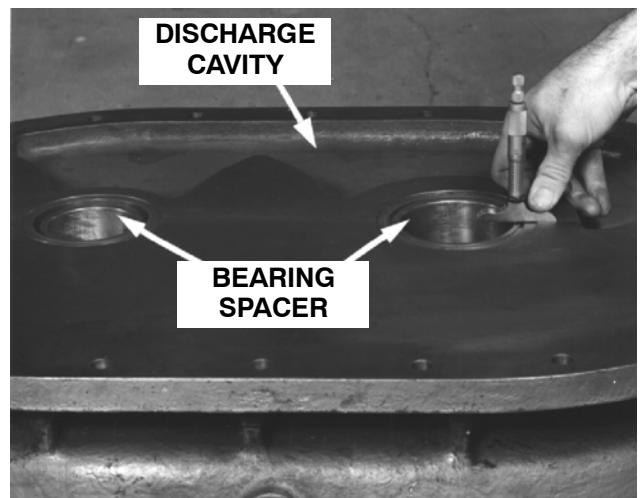
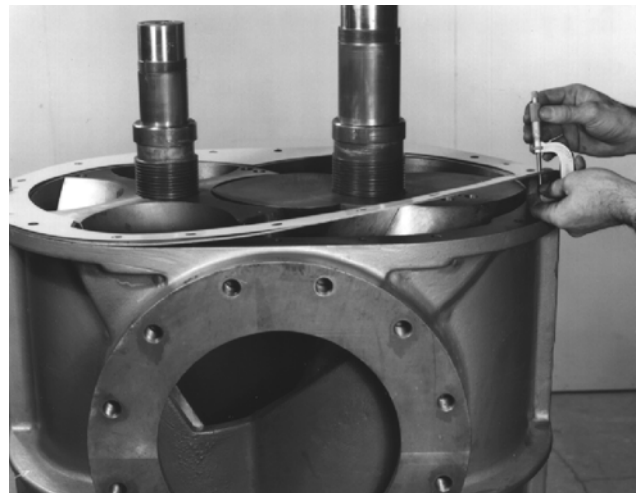
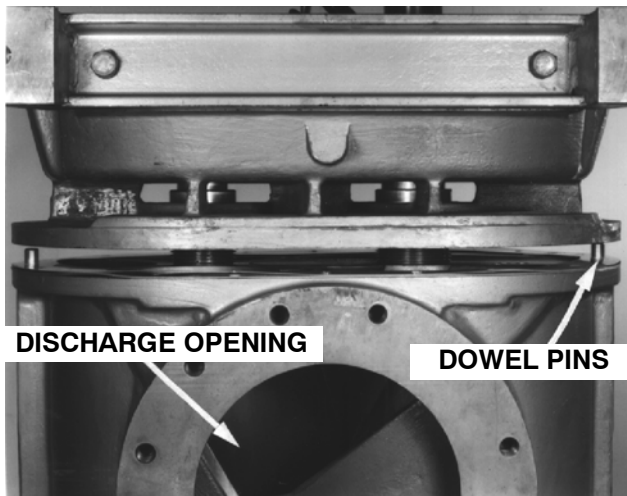

FIGURE 7
FIGURE 10
FIGURE 11
7. Inspect bearing spacers for burrs on either end and polished area of O.D. Slip bearing spacer through the shaft seal with polished end toward the bearing. Make sure the spacer is resting solidly against the bearing. With depth micrometer, measure the distance from the face of the carrier to the end of the bearing spacer, FIGURE 7.
give the shim set established in Step 9. Check the thickness of the shims with an outside micrometer (FIGURE 10, page 30). Place the shims on the end of the housing, matching the pointed section of the shims with the contour of the housing. Remove bearing spacers from the discharge end bearing carrier, FIGURE 7, page 29, and place them over the shaft extensions, grooved end toward the rotor. Be sure the spacer fits solidly against the rotor. If measurements in Step 8 differ, make sure the bearing spacer is placed over its respective shaft extension to assure proper end clearance of each rotor.
11. Coat the I.D. of the shaft seals in the discharge end bearing carrier with “Moly” type grease. Remove bearings from the carrier. Tag bearings so they will be reassembled in the same bearing bore from which the measurement was made. Match the cavity of the carrier, FIGURE 7, page 29, with the discharge opening of the housing, FIGURE 11, and lower the carrier, suspended plumb, in place on the housing. Be careful not to damage I.D. of the shaft seal by the shaft extension. Be sure there are no shaft shims in place during this operation as sharp edges of shims will damage the seals. Tighten the carrier to the housing screws (50, 55) evenly to prevent damage to the dowel pins.